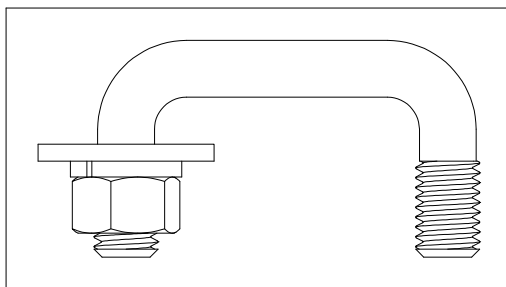
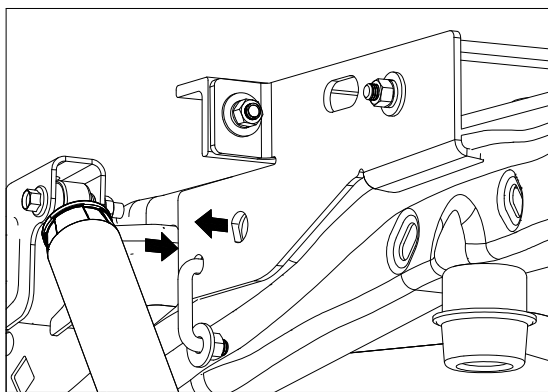
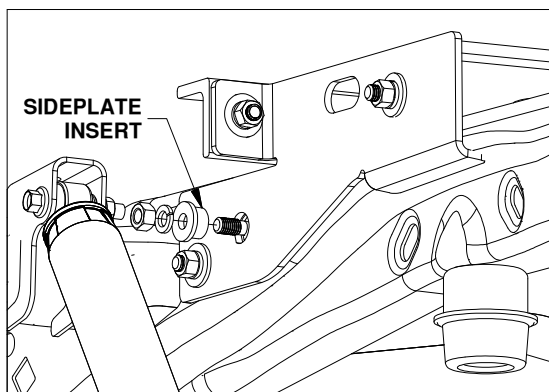

Figure C2: U-bolt preparation.
Figure C3: View looking into driver side wheel well.
Figure C4: View looking into driver side wheel well.
2. **Place side plate U-bolts.** Place a flat washer, lock washer, and nut on one end of the 2" U-bolt, see Figure C2. Place the other end into the smaller hole at the front of the side plate and twist through the frame until the threaded end is protruding out the other hole of the side plate, as shown in Figure C3. Next place the side plate insert over this end, being sure that the straight edge of the insert lines up with the straight edge of the hole of the side plate and is pushed into the frame all the way. (The insert will not set flush against the side plate when tightened if it is not properly aligned.) Then place a lock washer and nut on the U-bolt and tighten both ends of the U-bolt to 45 ft. lbs., see Figure C4.